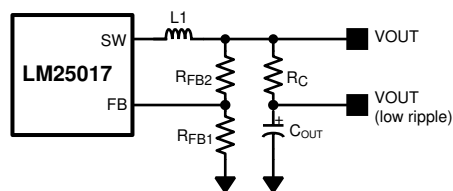

图 7-1. Low Ripple Output Configuration
This regulator regulates the output voltage based on ripple voltage at the feedback input, requiring a minimum amount of ESR for the output capacitor (C_{OUT}). A minimum of 25-mV ripple voltage at the feedback pin (FB) is required for the LM25017 device. In cases where the capacitor ESR is too small, additional series resistance may be required (R_C in 图 7-1).
For applications where lower output voltage ripple is required, the output can be taken directly from a low ESR output capacitor, as shown in 图 7-1. However, R_C slightly degrades the load regulation.